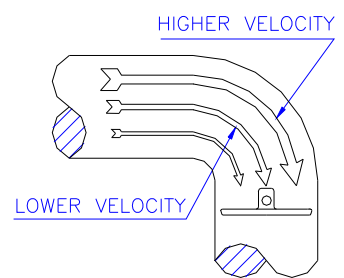

Fig.7
7.7. The typical installation for the butterfly valve connected to an elbow would be to align the shaft axis to allow equal flow on each side of the shaft, minimizing dynamic torque requirements for the valve. (Fig.7)